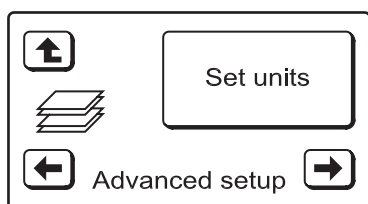

FIG. 71
4. Press the **RIGHT** (→) button twice to display the screen shown in Figure 71.